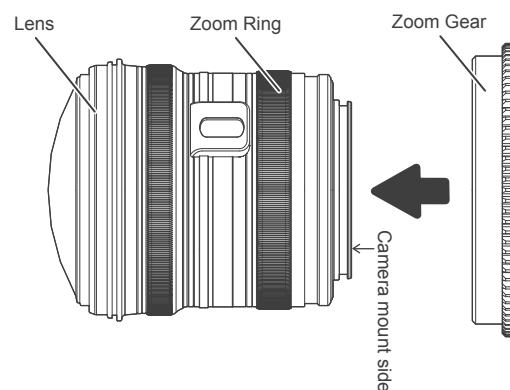

Fig.1
- 2 Attach this product to the lens in parallel alignment (Fig.1)**